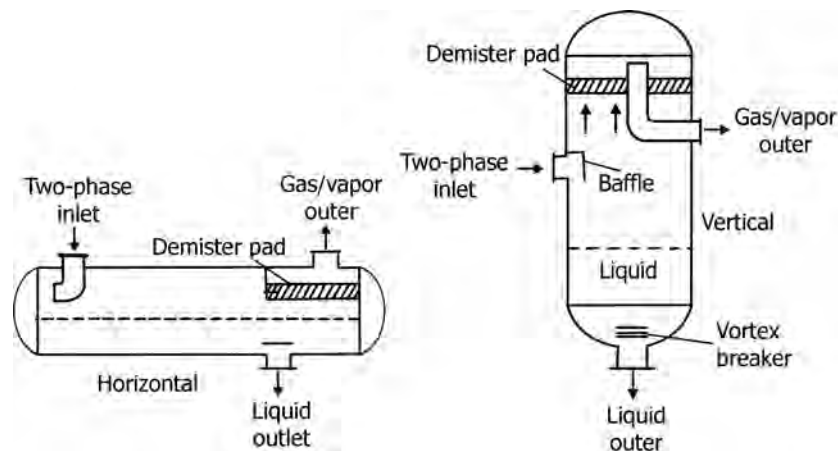

FIGURE 16.37 Typical gas/vapor–liquid separators. (Courtesy: Pace Engineering.)
- Figures 16.37 and 16.38 illustrate typical gas/vapor–liquid separator designs with demister pads.